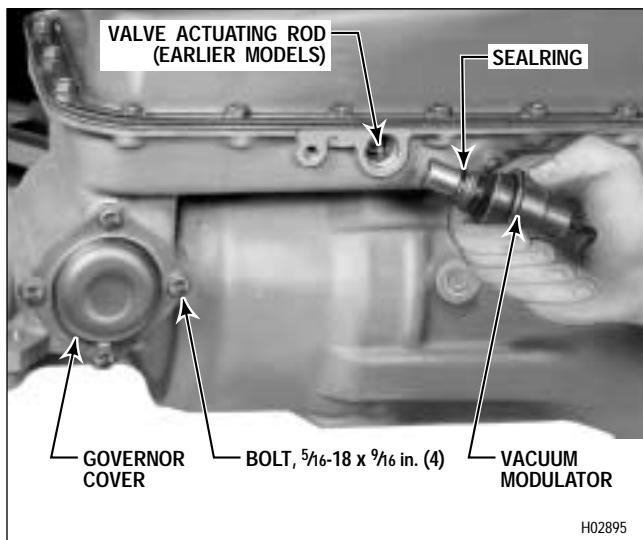

Figure 7-37. Installing Vacuum Modulator
(3) Install the governor cover and retain it with four 5/16-18 x 9/16 inch bolts (Figure 7-37). Tighten the bolts to 15–20 lb ft (20–27 N·m).
(1) For earlier models, install the vacuum modulator valve actuating rod, larger diameter end first (Figure 7-37). On diesel units (before S/N 22700) where a mechanical actuator is used, actuator pin 28 (Foldout 12,A) is one diameter. After S/N 22699, rod 28 (with two diameters) is used.
(2) Install the sealring onto the vacuum modulator (Figure 7-37). Lubricate the sealring with oil-soluble grease. Install the vacuum modulator.